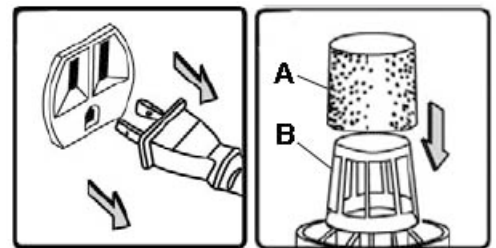

Figure 11
- 2) Remove the cover/motor assembly and install a clean and dry foam filter. If wet vacuuming under normal conditions or when vacuuming large amounts of liquid, only install the foam filter, slide the foam filter (A) Fig.11 over the cage (B). Make sure the inside of the tank is clean.